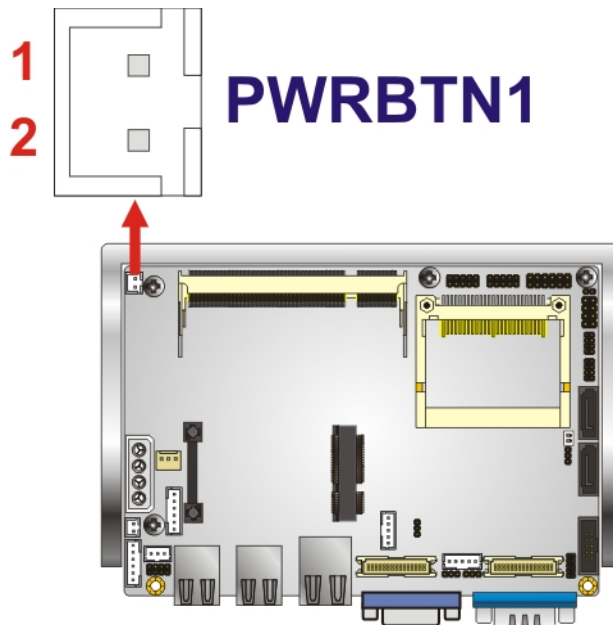

Figure 3-16: Power Button Connector Location
- CN Location:** See Figure 3-16